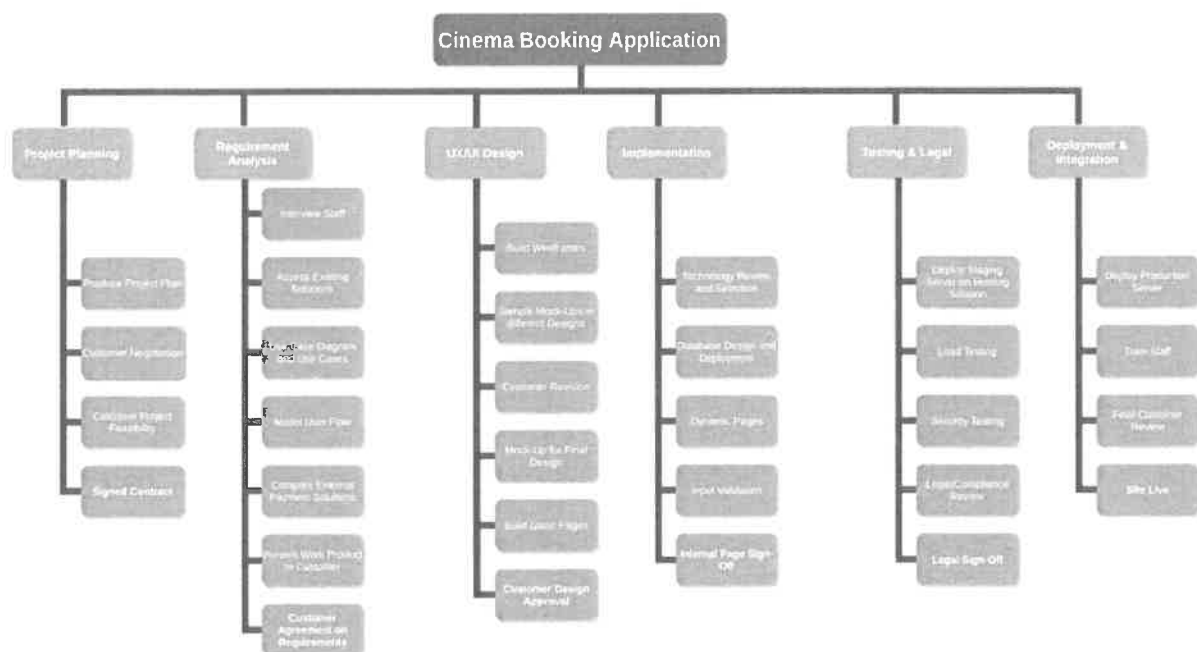
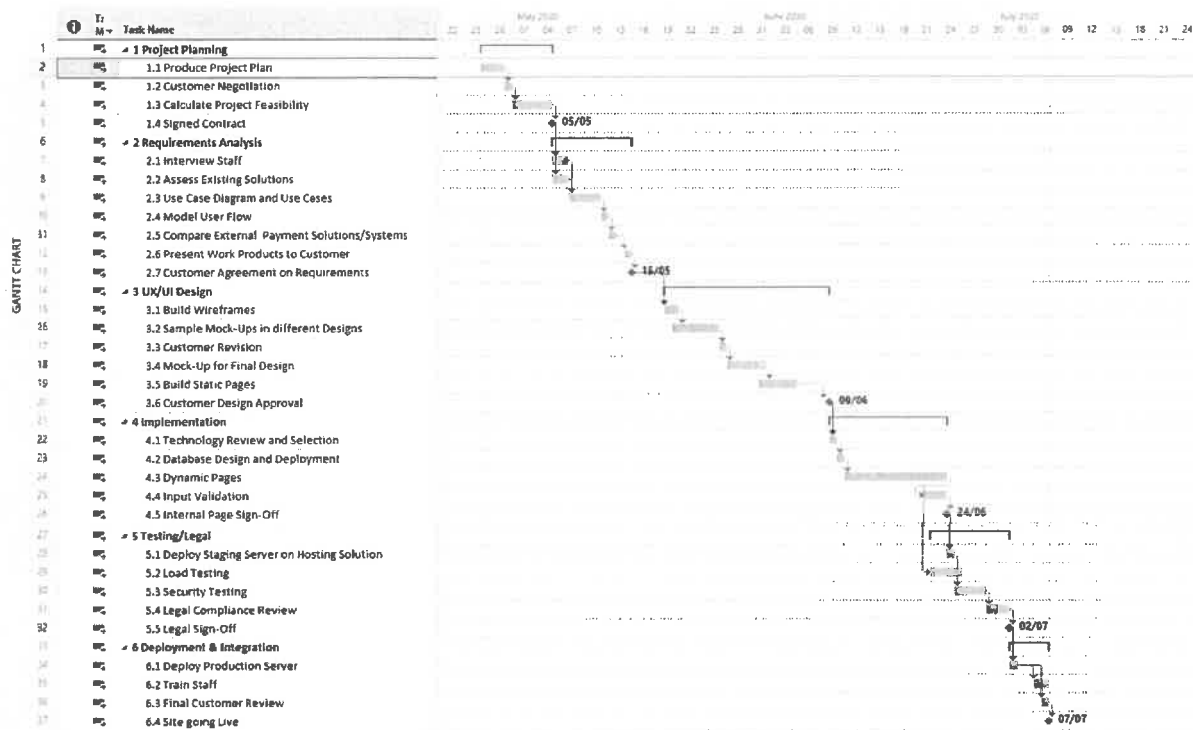

Figure 1: The work breakdown structure for the cinema ticket booking application.
Figure 2: Basic Gantt Chart for the application.
The WBS is split into 6 categories: (1) Project Planning, (2) Requirement Analysis, (3) UI/UX Design, (4) Implementation, (5) Testing and Legal and (6) Deployment and Integration. These phases are based on a more modern SDLC that keep the customer highly engaged for the duration of the project. An overview of the project can be seen in Figure 1.
The Gantt Chart shown in Figure 2 is an implementation of the WBS shown in Figure 1. The chart includes *lag time*, for example 3.6 and 3.7. Another objective included is *lead time* between 4.3 and 4.4. *Parallel tasks* are also included as seen between 2.1 and 2.2 or 6.2 and 6.3. The *summary tasks* are clearly visible, relating to the WBS categories describes earlier. Every phase ends with a *milestones* that has a date next to it, as seen below. To further explain parallel tasks, lead and lag time, a more in-depth description will be given below: